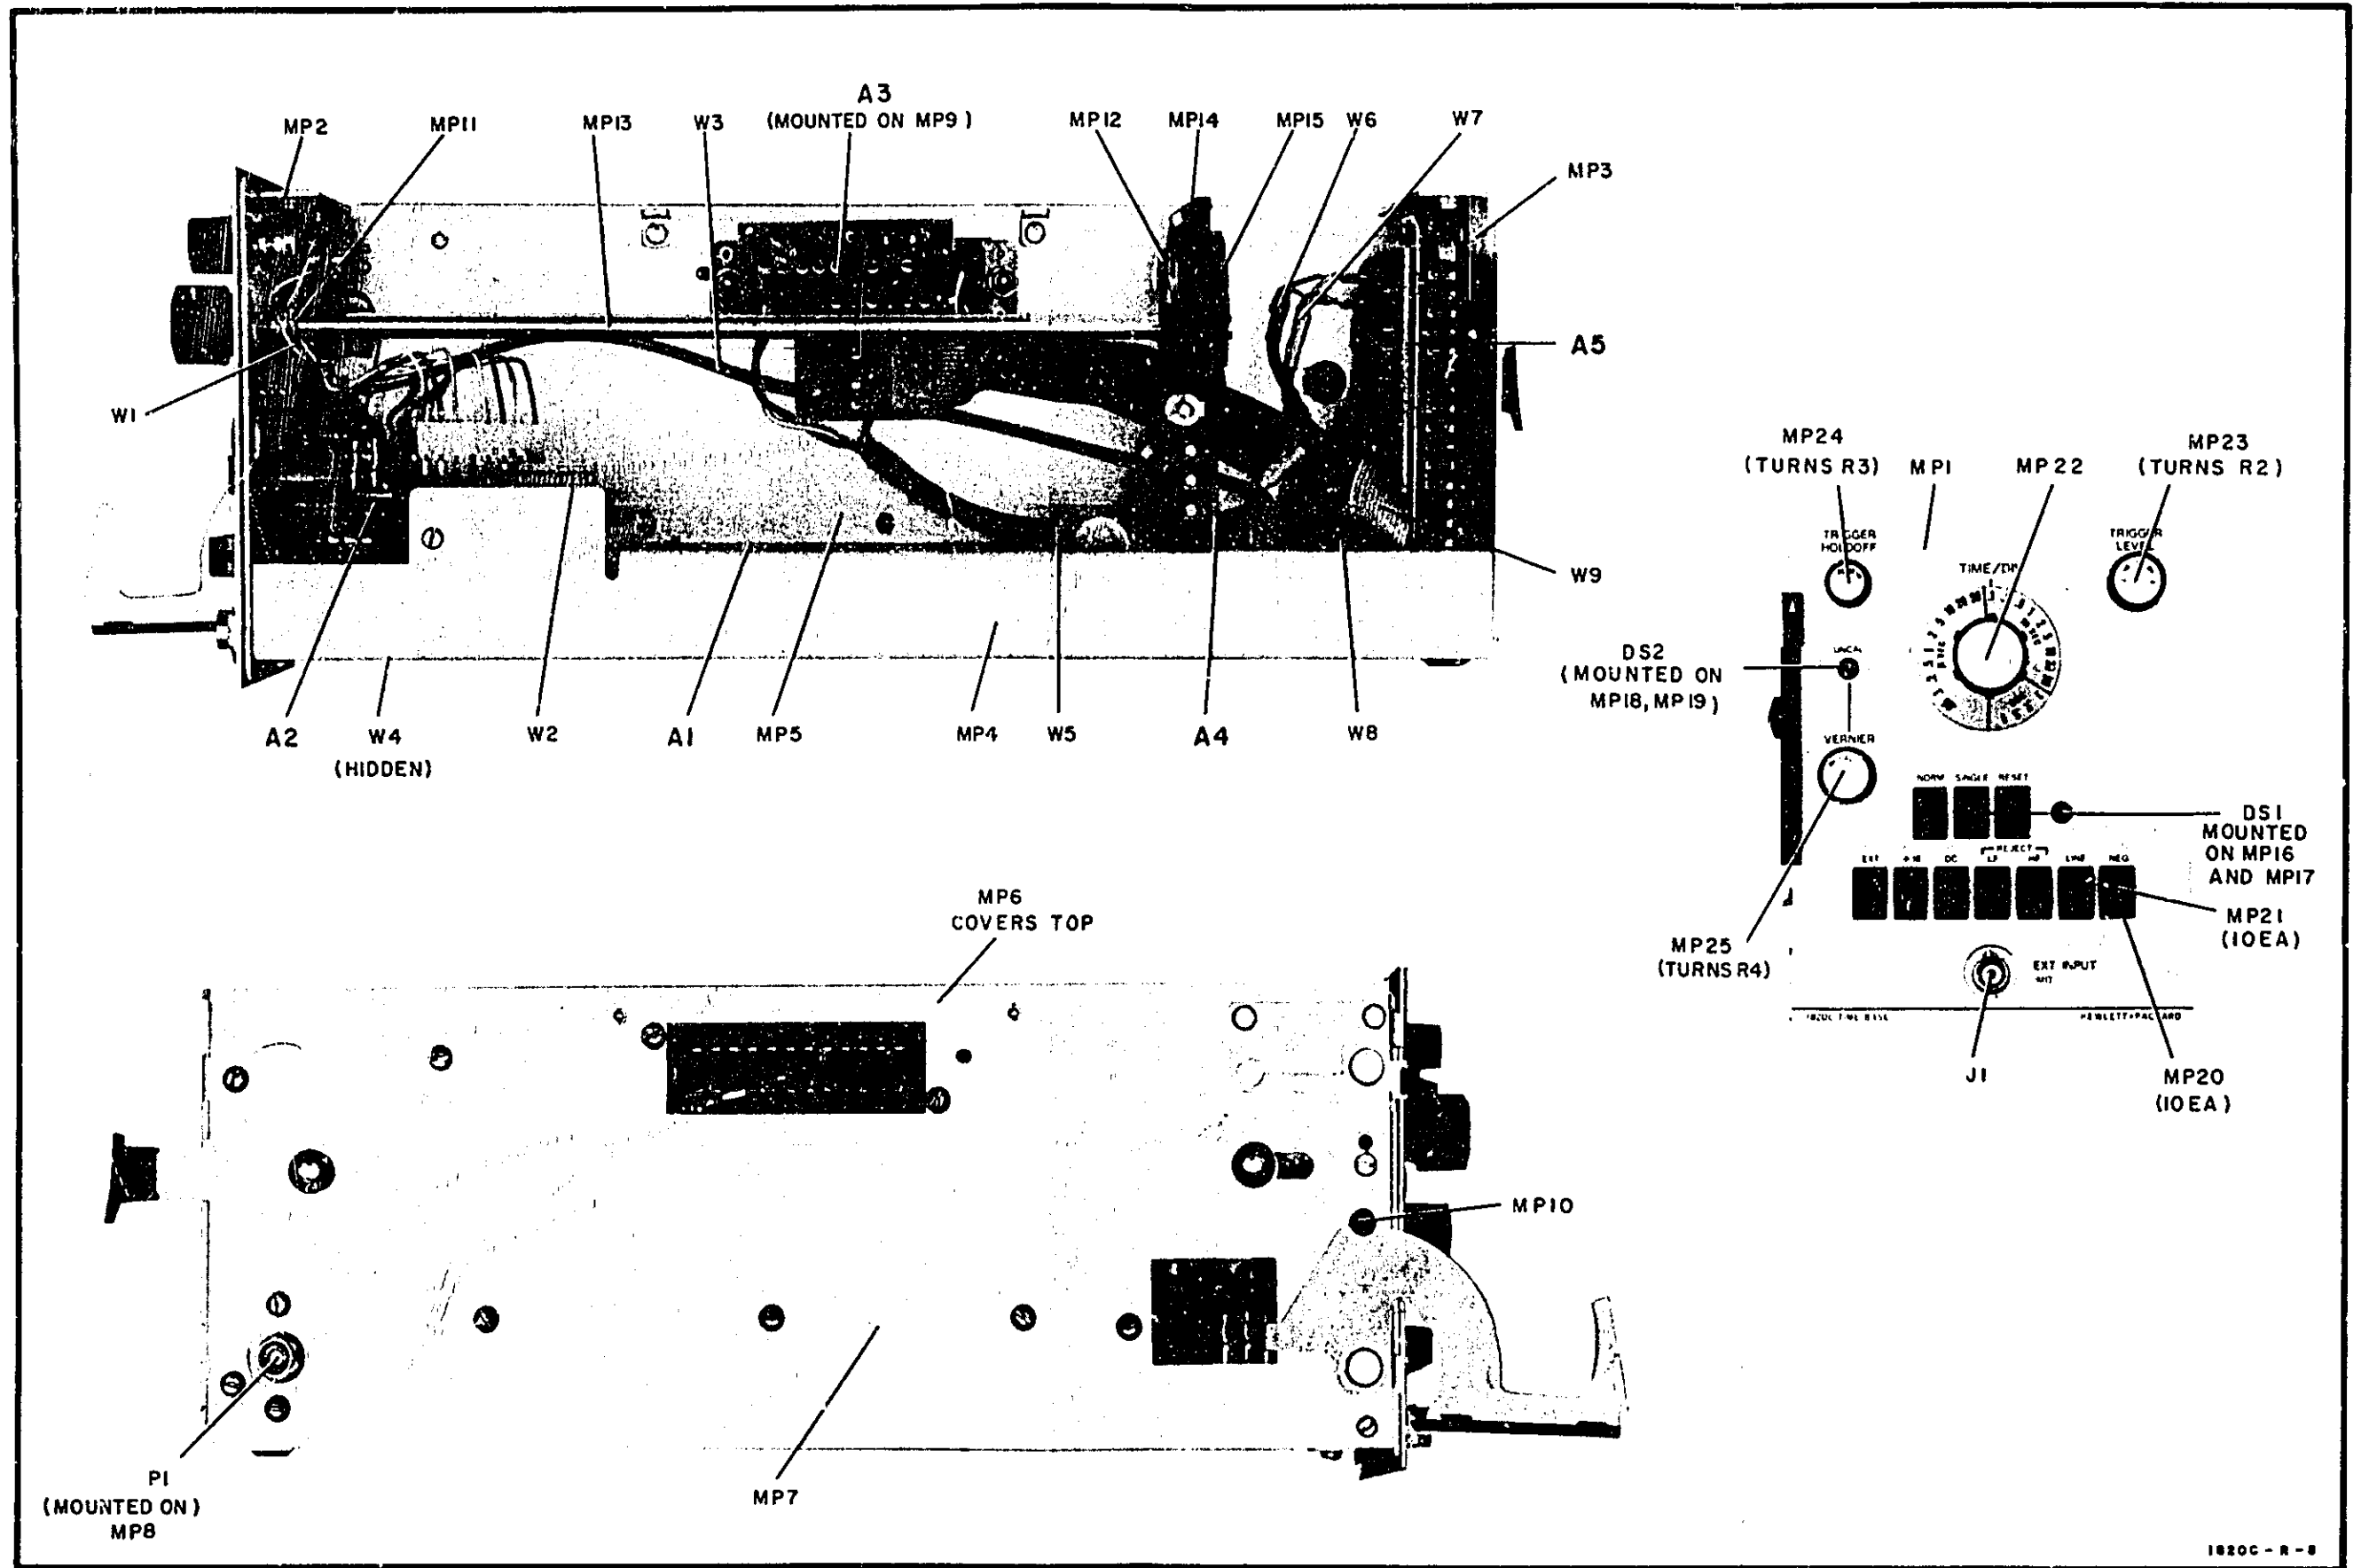

Figure 8-2.
8-13. Locations of components on assemblies and sub-assemblies are illustrated in photographs adjacent to the schematics. Components located on the chassis are identified in figure 8-2.
f. After locating desired measurement point on block diagram, refer to corresponding number on adjacent table 8-3. Table 8-3 provides physical location of measurement and test condition for making indicated measurement. Chassis parts locations are shown in figure 8-2. PC board component locators are adjacent to schematics.